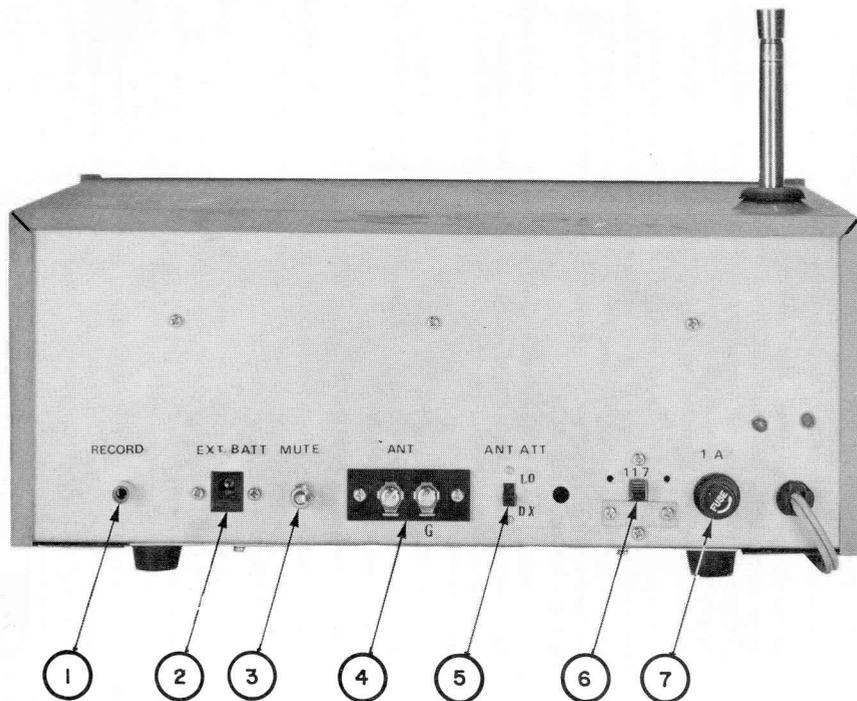

FIG. 2
The SSR-1 will operate from its internal battery supply, external 12 V DC supply or from a 117 volt or 240 volt AC line. The receivers are wired at the factory for 117 volt and 240 volt operation. Proper voltage is obtained by the switch at the rear panel (see 6 Fig. 2). This switch is locked in either the 117 V or 234 V position and can be changed by removing the two (2) screws holding the lock bar and putting the switch in the desired position.
For optimum performance, the SSR-1 should be used with a good external antenna. There are provisions at the rear of the chassis (see 4 in Fig. 2) for connecting an external antenna for improved reception. A ground terminal is provided for use in circumstances where advantageous.